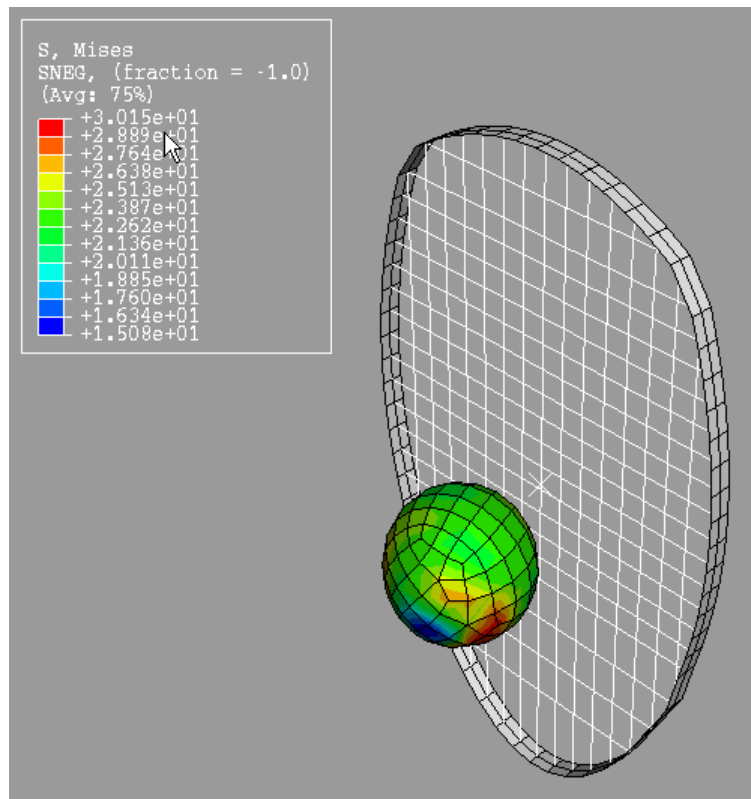

Figure W-33 Mises stress contour plot.
3. In the toolbox, click  (or select **Plot**→**Contours**→**on Deformed Shape** from the main menu bar) to view a contour plot of the von Mises stress, as shown in Figure W-33. In this figure, the font size for the legend text has been increased to 10 (**Viewport**→**Viewport Annotation Options**).